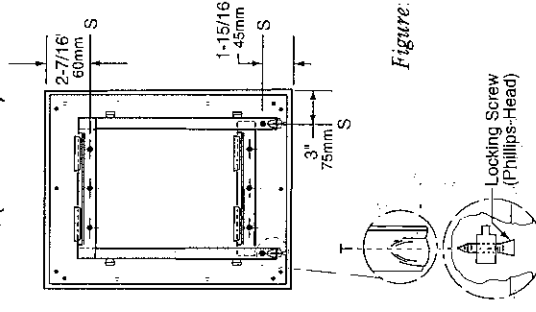

Figure 2
**Frame** — 18-8 S, type 304, heavy-gauge stainless steel, 3/4" x 3/4" (19 x 19mm) angle with vertical-grain satin finish. One-piece, roll-formed construction forms continuous integral stiffener on all sides. Bevel design on front of angle holds frame tightly against mirror. Corners of mirror frame are heliarc welded, ground and polish smooth. Galvanized steel back is fastened to frame with concealed screws and equipped with integral horizontal hanging brackets near the top and bottom of the mirror for hanging the mirror and to prevent the mirror from pulling away from the wall. Locking devices secure mirror to concealed wall hanger. In Screw Locking Design (see figure 2), concealed Phillips-head locking screws securely fasten mirror to wall hanger.